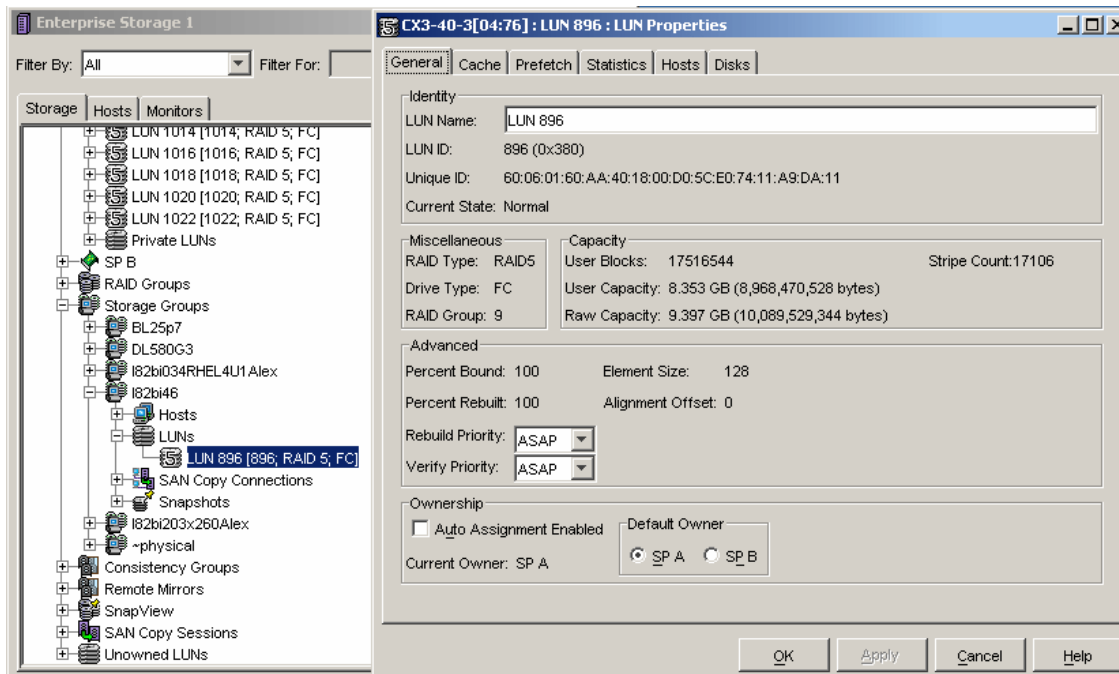

Figure 8-38 I82bi46: LUN Properties window
10. Once the LUNs has been successfully added to storage group, click **OK**. You will see a window similar to Figure 8-38.